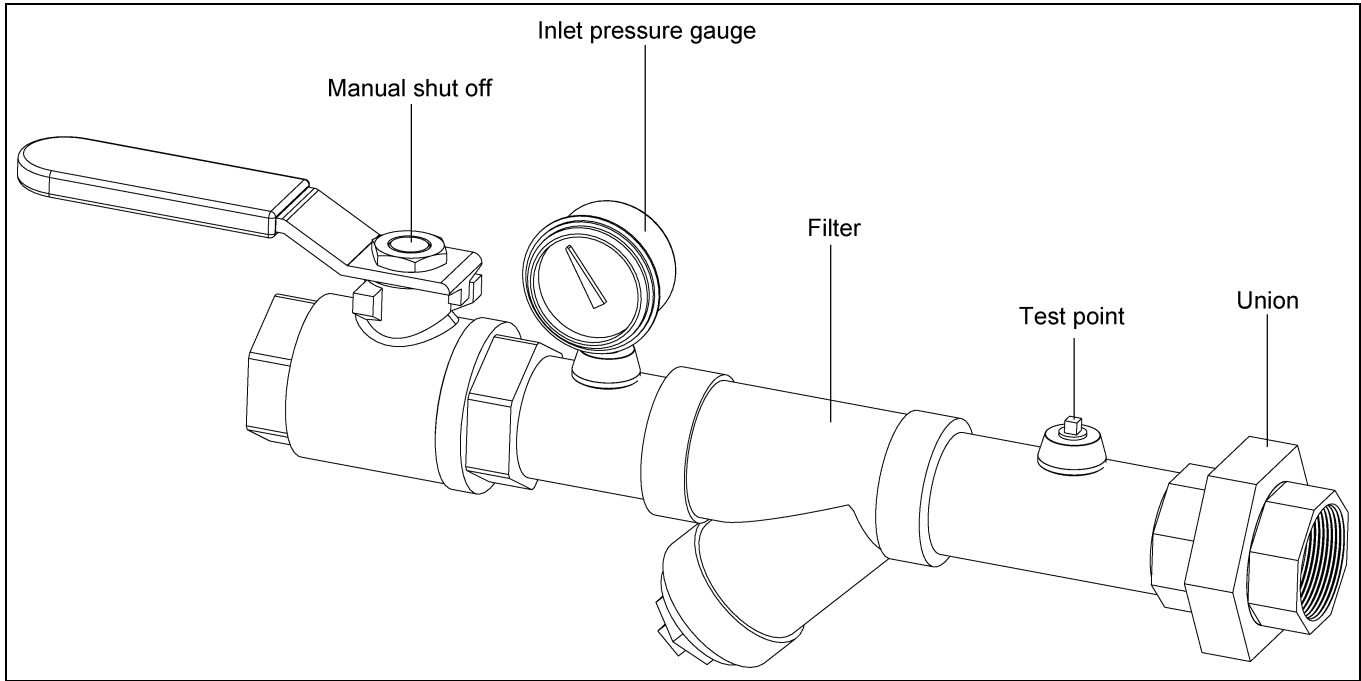

Figure 3B
1. Pressure from supply read at inlet gauge. (See Figure 3B on Page 16.)
- a. Close inlet valve. (See Figure 3B on Page 16.)